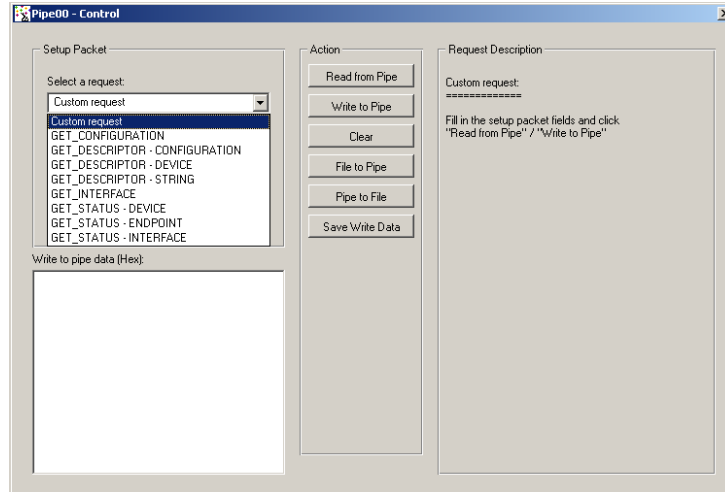

Figure 5.5: USB Request List
- For a control pipe (a bidirectional pipe), click **Read/Write to Pipe**. A new dialog box will appear, allowing you to select a standard USB request (see Figure 5.5) or enter a custom request. Once you select a standard USB request, the setup packet array is automatically filled and the request description is displayed in the dialog box. For a custom request, you are required to enter a setup packet and write operation data. The setup packet should be eight bytes long (little